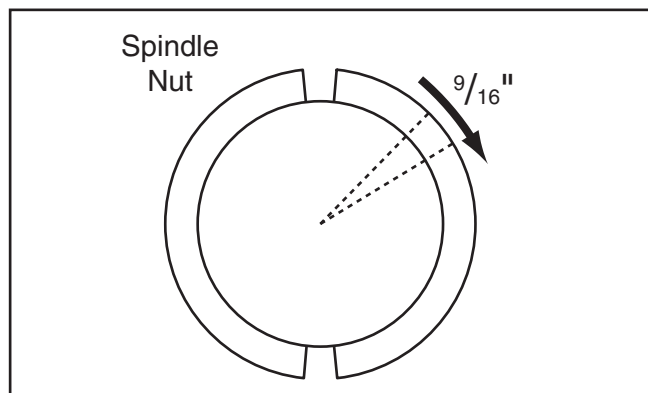

Figure 98. Turning the spindle nut $\frac{9}{16}$ ".
- When you are confident that you have adjusted the spindle nut so that there is no spindle end-play or preload, tighten the spindle nut an additional $\frac{9}{16}$ " turn clockwise to introduce the correct amount of spindle bearing preload, which is 0.003" (see **Figure 98**).